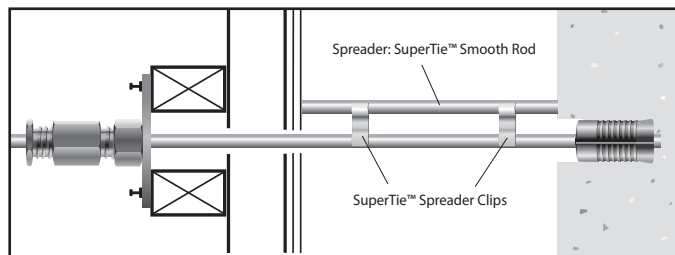

Figure 7.
STEP 7 – (See Figure 7)
An additional piece of Rod may be used to provide a method of aligning the form. Using a 5/16” drill bit (1/2” for 15K system), make holes about 2” deep, into which the “spreader” can be inserted (see Fig. 7). Cut these “spreader Rods” to an appropriate length so that the form will be aligned when touching them. Unit set when split is visible.
STEP 8 – (See Figure 7)